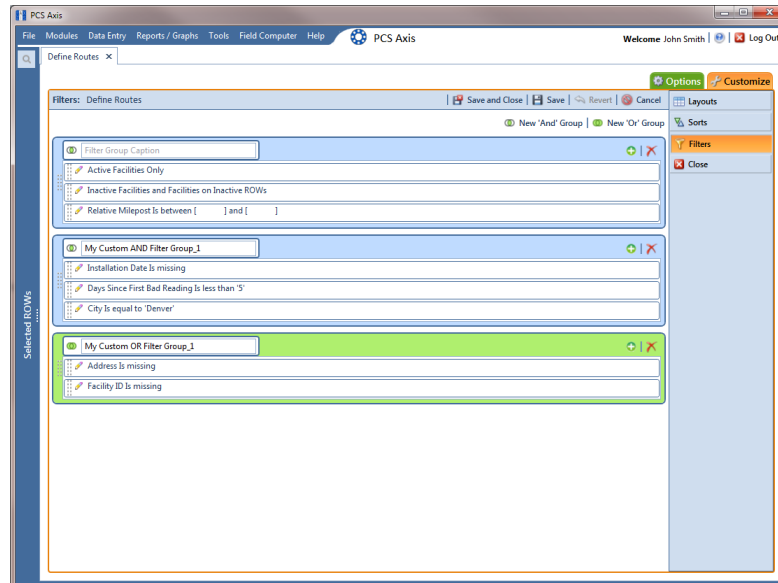

Figure 8-71. Filters
- 4 Click the edit icon  to display a filter's property settings (Figure 8-71).